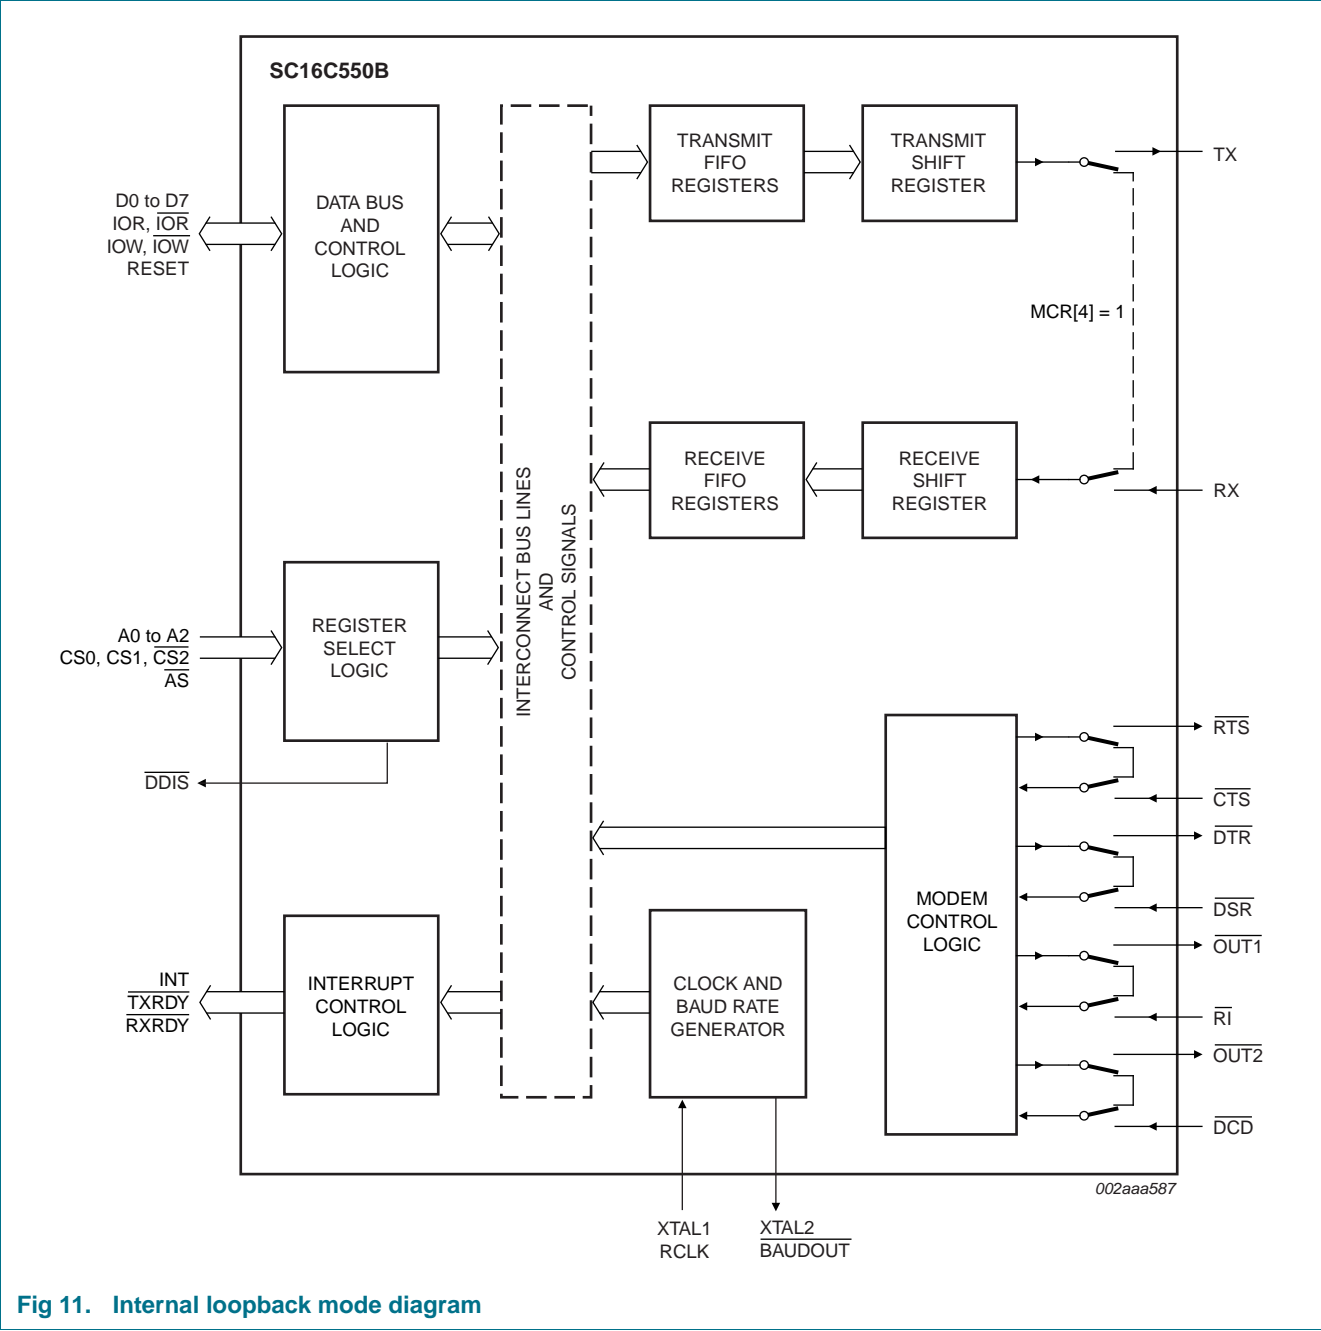

Fig 11. Internal loopback mode diagram
The internal loopback capability allows on-board diagnostics. In the loopback mode, the normal modem interface pins are disconnected and reconfigured for loopback internally. MCR[3:0] register bits are used for controlling loopback diagnostic testing. In the loopback mode, OUT1 (bit 2) and OUT2 (bit 3) in the MCR register control the modem $\overline{\text{RI}}$ and $\overline{\text{DCD}}$ inputs, respectively. MCR signals $\overline{\text{DTR}}$ and $\overline{\text{RTS}}$ (bits 0:1) are used to control the modem $\overline{\text{CTS}}$ and $\overline{\text{DSR}}$ inputs, respectively. The transmitter output (TX) and the receiver input (RX) are disconnected from their associated interface pins, and instead are connected together internally (see Figure 11). The inputs $\overline{\text{CTS}}$, $\overline{\text{DSR}}$, $\overline{\text{DCD}}$, and $\overline{\text{RI}}$ are disconnected from their normal modem control input pins, and instead are connected internally to $\overline{\text{DTR}}$, $\overline{\text{RTS}}$, $\overline{\text{OUT1}}$ and $\overline{\text{OUT2}}$. Loopback test data is entered into the transmit holding register via the user data bus interface, D0 to D7. The transmit UART serializes the data and passes the serial data to the receive UART via the internal loopback connection. The receive UART converts the serial data back into parallel data that is then made available at the user data interface D0 to D7. The user optionally compares the received data to the initial transmitted data for verifying error-free operation of the UART TX/RX circuits.